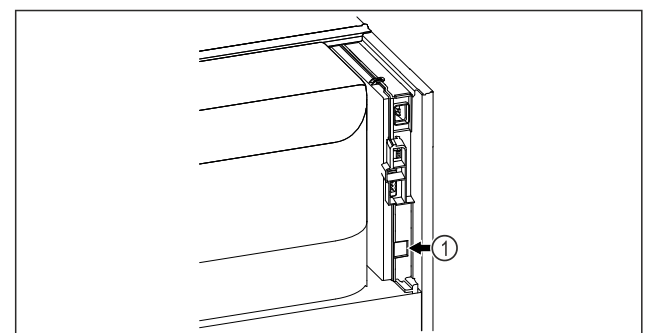

Fig. 134
- ❑ SmartModule Fig. 134 (1) is in use.